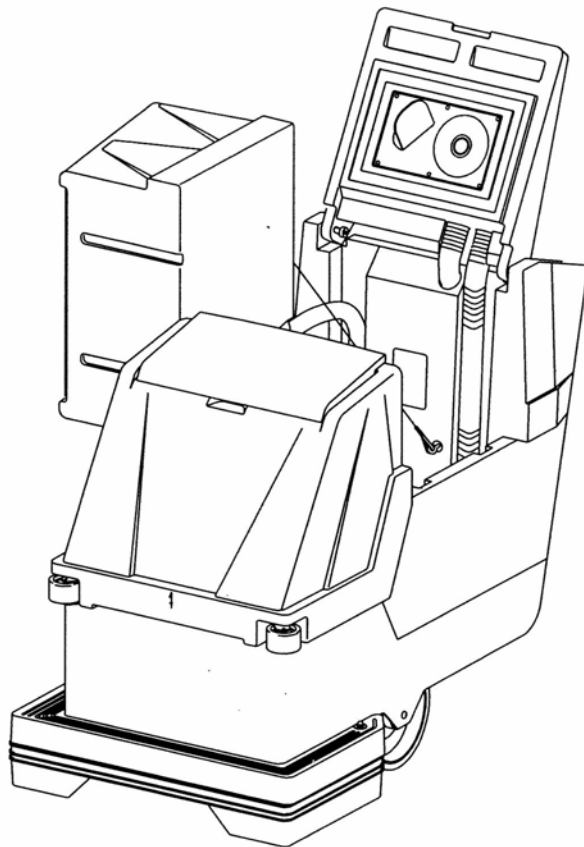

Figure 1
2. Raise the tank assembly by raising rear cover and tilting tank, Figure 1.